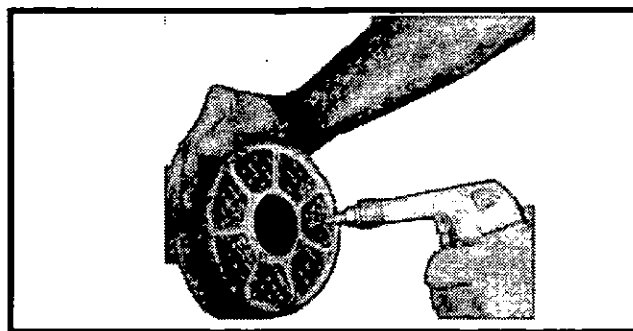

Figure 5-8 Drying the Oil Bath Filter Element
- Carefully direct the compressed air at an angle onto the inside surfaces of the element, (Figure 5-8).